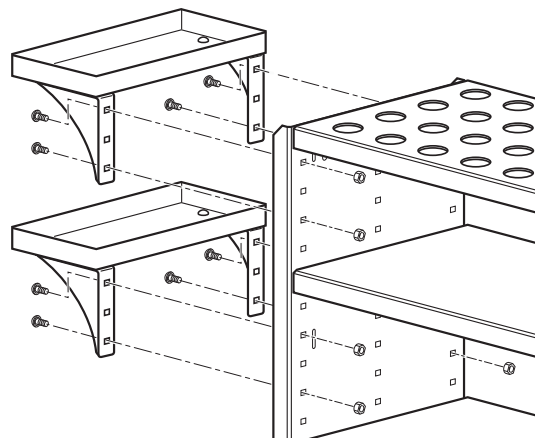

Figure 4-29
- Using eight M8 x 20 Round-Head Square-Neck Carriage Bolts (item #3) with M8 Flanged Nylock Hex Nuts (item #2), attach both Rear Tray Assemblies to the Side Panel that doesn't have the handle (see Figure 4-29). Provide desired space between trays. **Fully tighten all nuts applied in steps 9 & 10.**